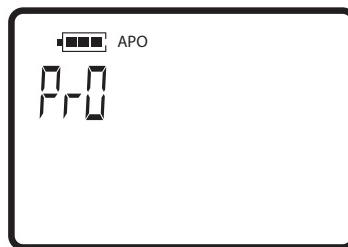

Figure 18
- 1) At **Main Screen (FIG. 1)** press and hold **MODE** until “**PrO**” (**Program**) **Screen (FIG.18)** appears. “**PrO**” will blink.
- 1) At Main Screen (**FIG. 1**) press and hold **MODE** until “**PrO**” screen (**FIG. 18**) appears. “**PrO**” will blink.